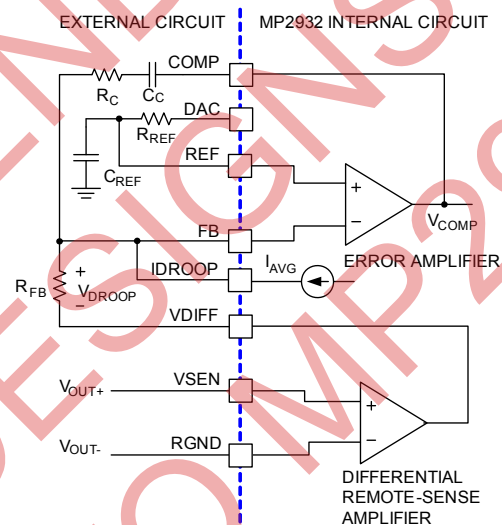

Figure 4—Output Voltage and Load-line Regulation
The MP2932 uses an internal differential remote-sense amplifier as shown in Figure 4. The microprocessor voltage is sensed between the VSEN and RGND pins.
The load-line is realized by a resistor R_{FB} connected between FB pin and the remote sense output (V_{DIFF}). As shown in Figure 4, the average current of all active channels (I_{AVG}) flows from FB through the load-line regulation resistor R_{FB} . The resulting voltage drop across R_{FB} can be seen from Equation (6):
The load-line regulation resistor is labeled R_{FB} in Figure 4. Its value depends on the desired load-line requirement of the application.